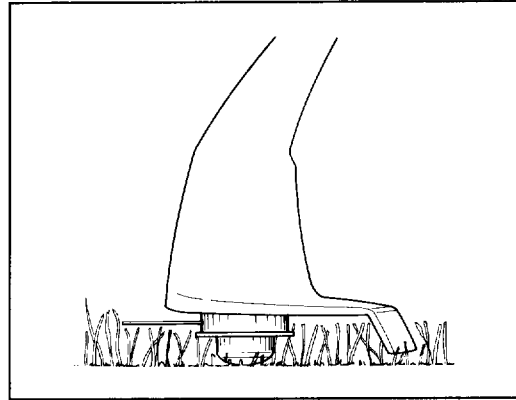

Figure 7
9. **Never drag the trimmer spool cap on the ground while trimming (Fig. 7). This causes motor overload and spool cap wear.**